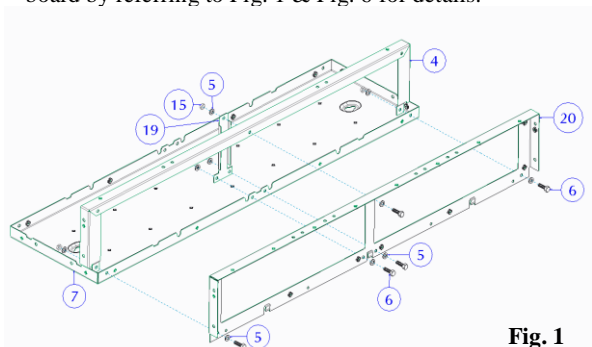

Fig. 1
- Assemble the back plate and side rails to the main panel board by referring to Fig. 1 & Fig. 6 for details.